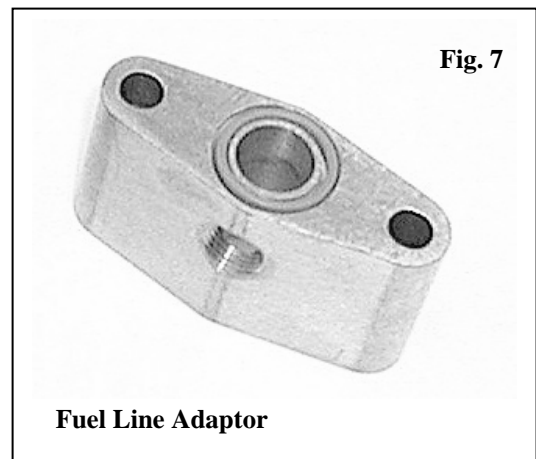

Fig. 7
- A. The 350Z Nitrous System comes with a Fuel Line Adaptor (Fig. 7). It is installed underneath the factory fuel pressure dampener, located on the passenger side of the engine. This Fuel Line Adaptor has a 1/8npt outlet for feeding fuel to the nitrous system. The extra o-ring and longer bolts needed for installation are included in the kit.